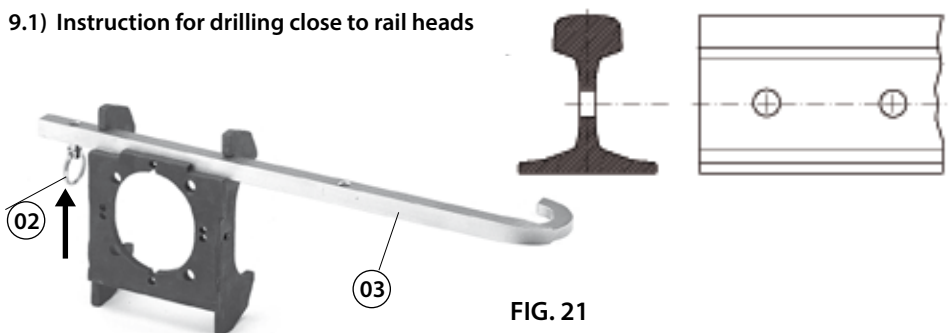

FIG. 21
- 9.1.2) Insert the **SPA...** positioning plate (03) relating to the rail to be drilled in the appropriate housing (see Fig. 21).